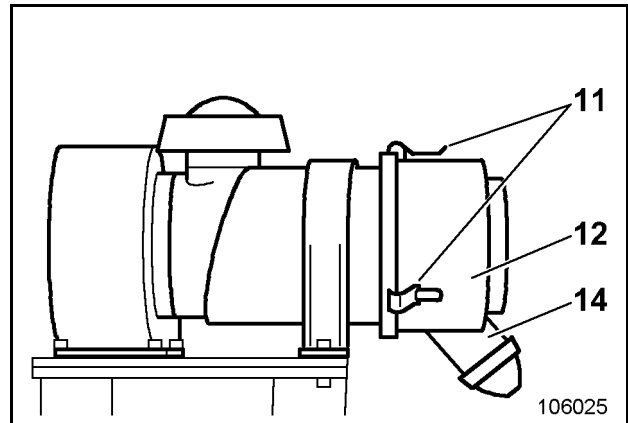

Fig. 3-48:
In the switchgear cabinet, the air is drawn in by a ventilator via the filter (Fig. 3-48:).
- Press dust trap (14, Fig. 3-48:) and hold until the dust trap is empty.
- Loosen clamps (11, Fig. 3-48:).
- Remove dust collector (12) and empty.
- Remove the dust collector (12, Fig. 3-48:).